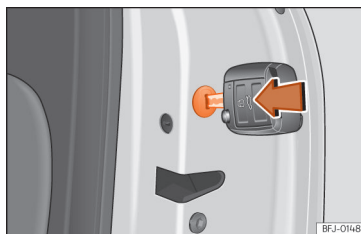

Fig. 73 Locking the door manually.
- Insert the key in the slot >>> Fig. 73 (arrow) and turn it to the right as far as it will go (if the door is on the right side) or to the left (if the door is on the left side).